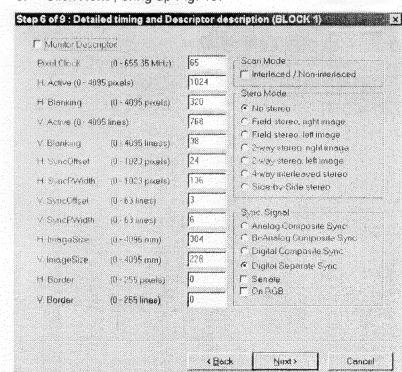

Fig. 19
5. Click **Next**, bring up Fig. 19.